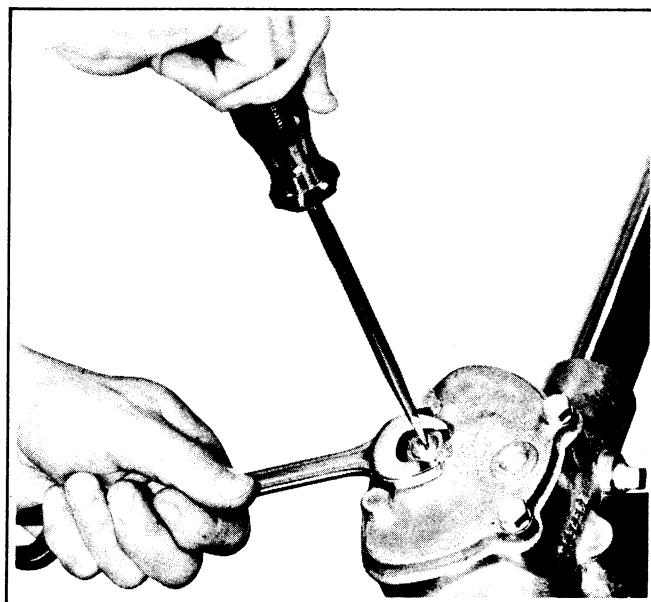

Figure 2-40. Making Over-Center Adjustment
Loosen locknut (16) and turn screw (17) in or out to eliminate play and while holding screw in desired position retighten locknut (see Figure 2-40).